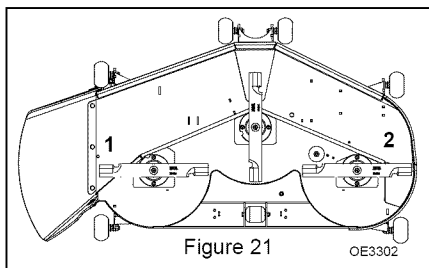

Figure 21
5. Set both of the outside blades to be perpendicular to the mower as shown in figure 21.